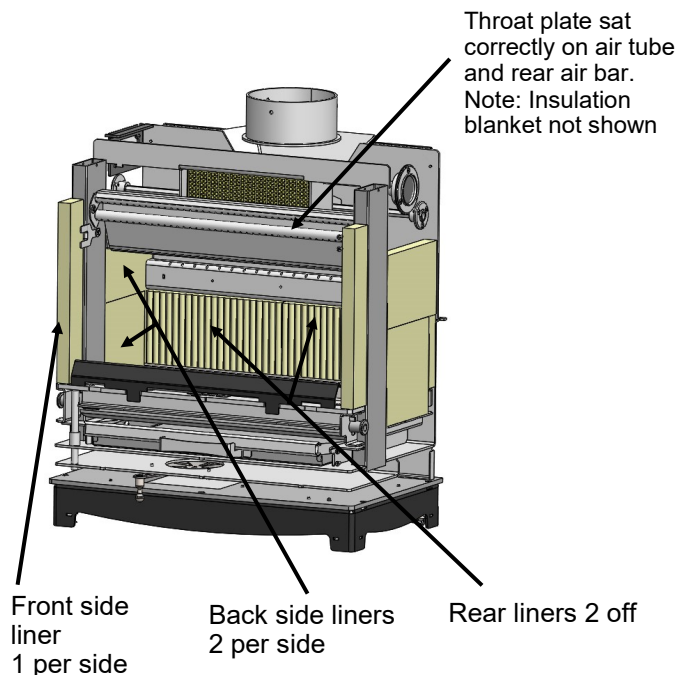

Fig. 2.
- Repeat for the other set of rear side liners. (See Fig 2&3)
- Insert one front side liner in each side of the front of the stove. Secure in place with the front liner clamp as shown. (See Fig 2&3)